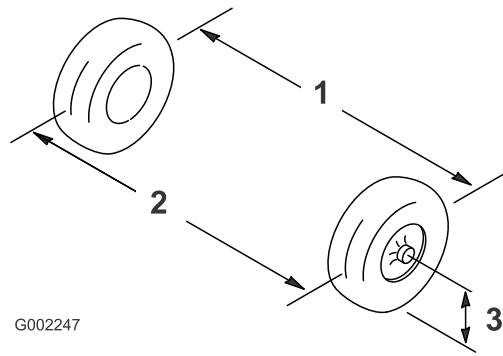

Figure 96
2. Measure the distance between of the front tires at the axle height at the front and rear of the front tires (Figure 96).